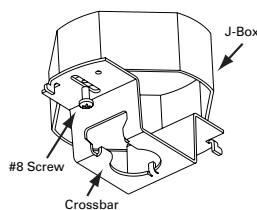

FIG. 1
1. Install the crossbar to a 4" octagonal j-box using two (2) #8 screws (not supplied). **FIG. 1**